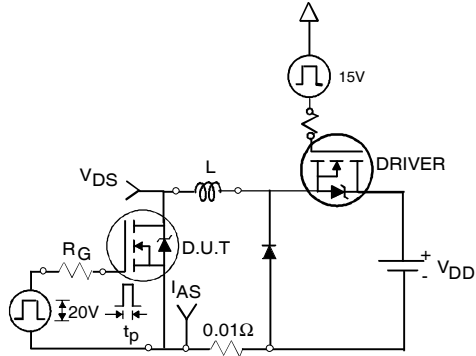

Fig 12a. Unclamped Inductive Test Circuit
- ③ $I_{SD} \leq 78A, di/dt \leq 320A/\mu s, V_{DD} \leq V_{(BR)DSS}, T_J \leq 175^\circ\text{C}$
- ④ Pulse width $\leq 400\mu s$; duty cycle $\leq 2\%$.
- ⑤ $C_{oss \text{ eff.}}$ is a fixed capacitance that gives the same charging time as C_{oss} while V_{DS} is rising from 0 to 80% V_{DSS} .
- ⑥ Calculated continuous current based on maximum allowable junction temperature. Package limitation current is 75A.
- ⑦ Limited by T_{Jmax} , see Fig.12a, 12b, 15, 16 for typical repetitive avalanche performance.
3. Equation below based on circuit and waveforms shown in Figures 12a, 12b.